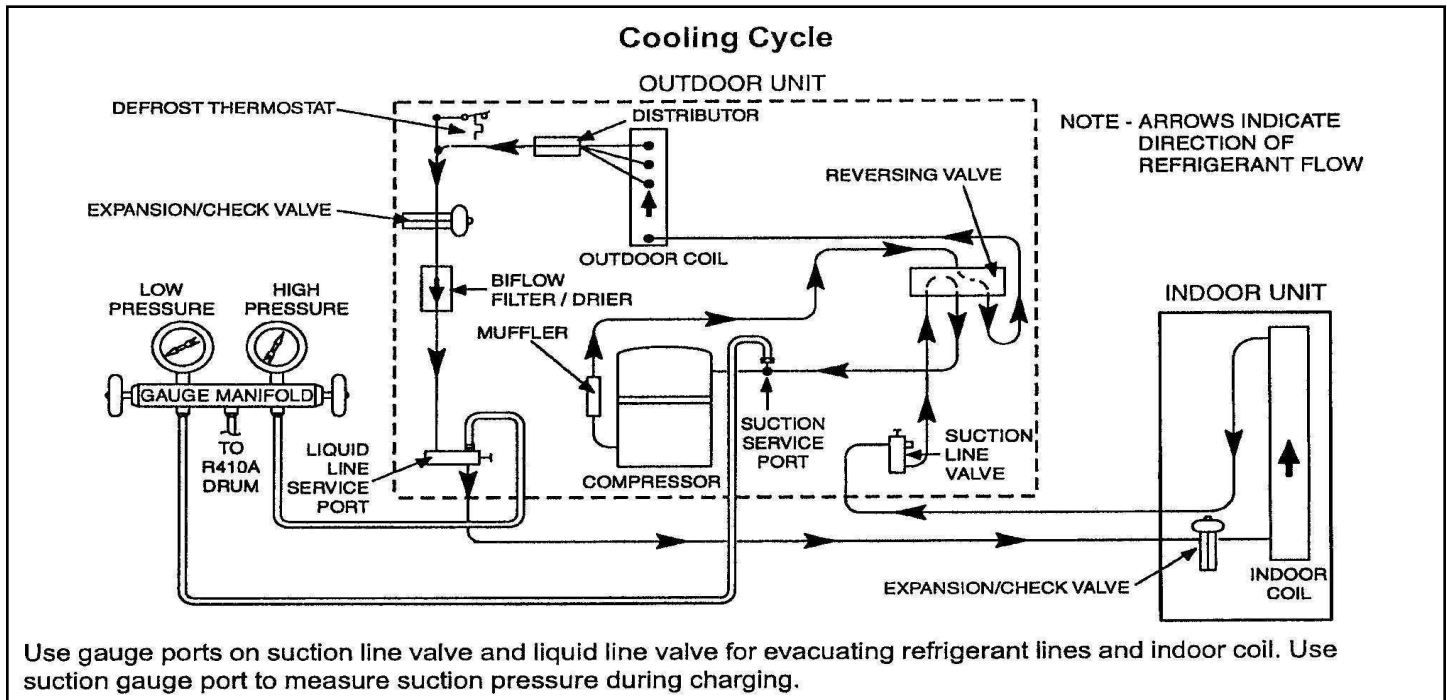

Figure 15.
1. Connect the manifold gauge set to the service valve ports as follows (see Figure 15):